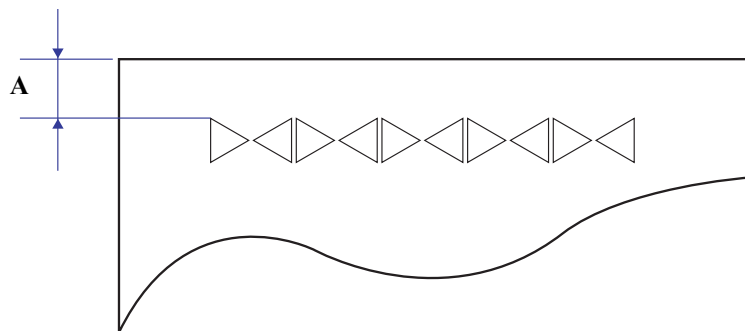

Figure 5-32. Top margin check pattern
(See Figure 5-32.)
7. Eject the paper and measure the distance (mm), from the top edge of the paper to the printed pattern, as shown in Figure 5-32. If it is within the specified range, go to Step 10.